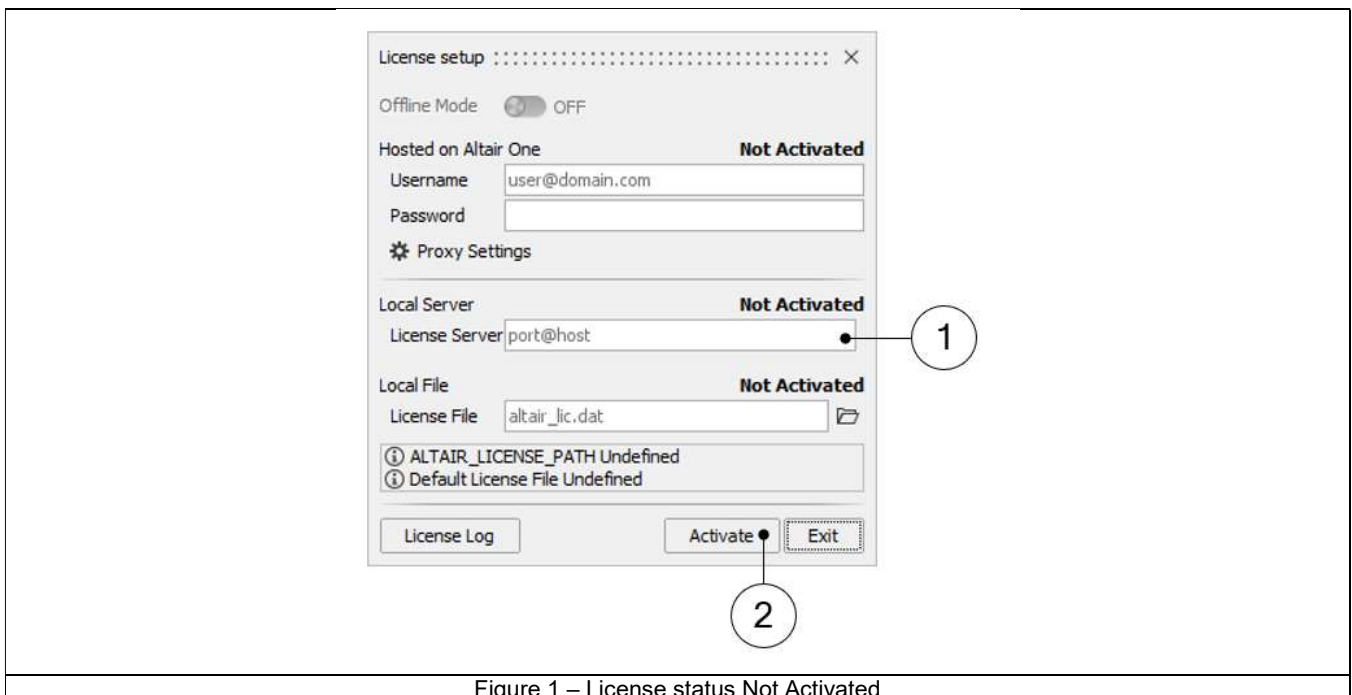

Figure 1 – License status Not Activated
- 2) Enter the port@host information for the License Server (Mark 1 - Figure 1 – License status).
- 3) Click on the “Activate” button (Mark 2 - Figure 1 – License status). The status changes to “Activated” when the license is validated, or you will receive an error message if unsuccessful.